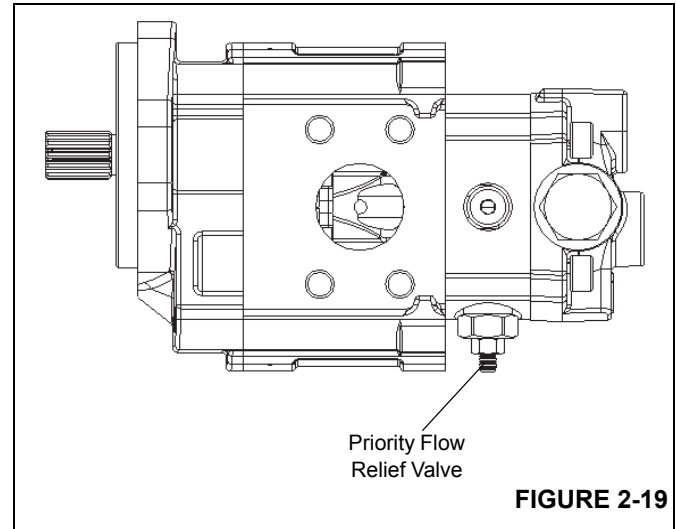

FIGURE 2-19
4. Adjust the priority flow relief valve (Figure 2-19) in the pump in to increase or out to decrease to attain a pressure of  $150 \pm 4$  bar ( $2175 \pm 50$  psi).